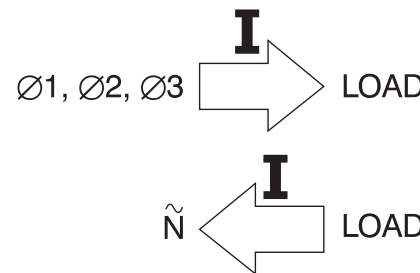

Figure 9. Orientation of the Current Clamp
4. Position the Current Clamp perpendicularly and centered around the conductor. Make sure that the arrow marked on the clamp jaw points toward the correct orientation for correct phase display on the oscilloscope. (See Figure 9.) Use the markings on the jaws to center the conductor.